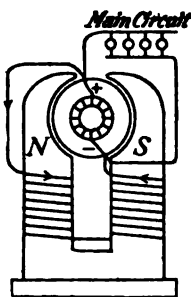

FIG. 286.—A shunt-wound dynamo.
*B. The shunt wound dynamo* (see Fig. 286) sends a part only of the current produced through the field coils. The latter are of many turns of fine wire so as to use as little current as possible. The greater part of the current goes to the main circuit. If the number of lamps or motors